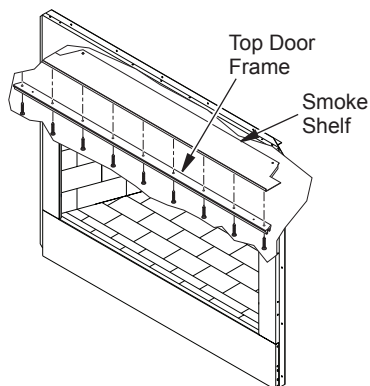

Figure 37 - Installing Top Door Frame
1. Remove screws from smoke shelf (see Figure 37).
2. Mount top door frame and secure with screws provided (see Figure 37).